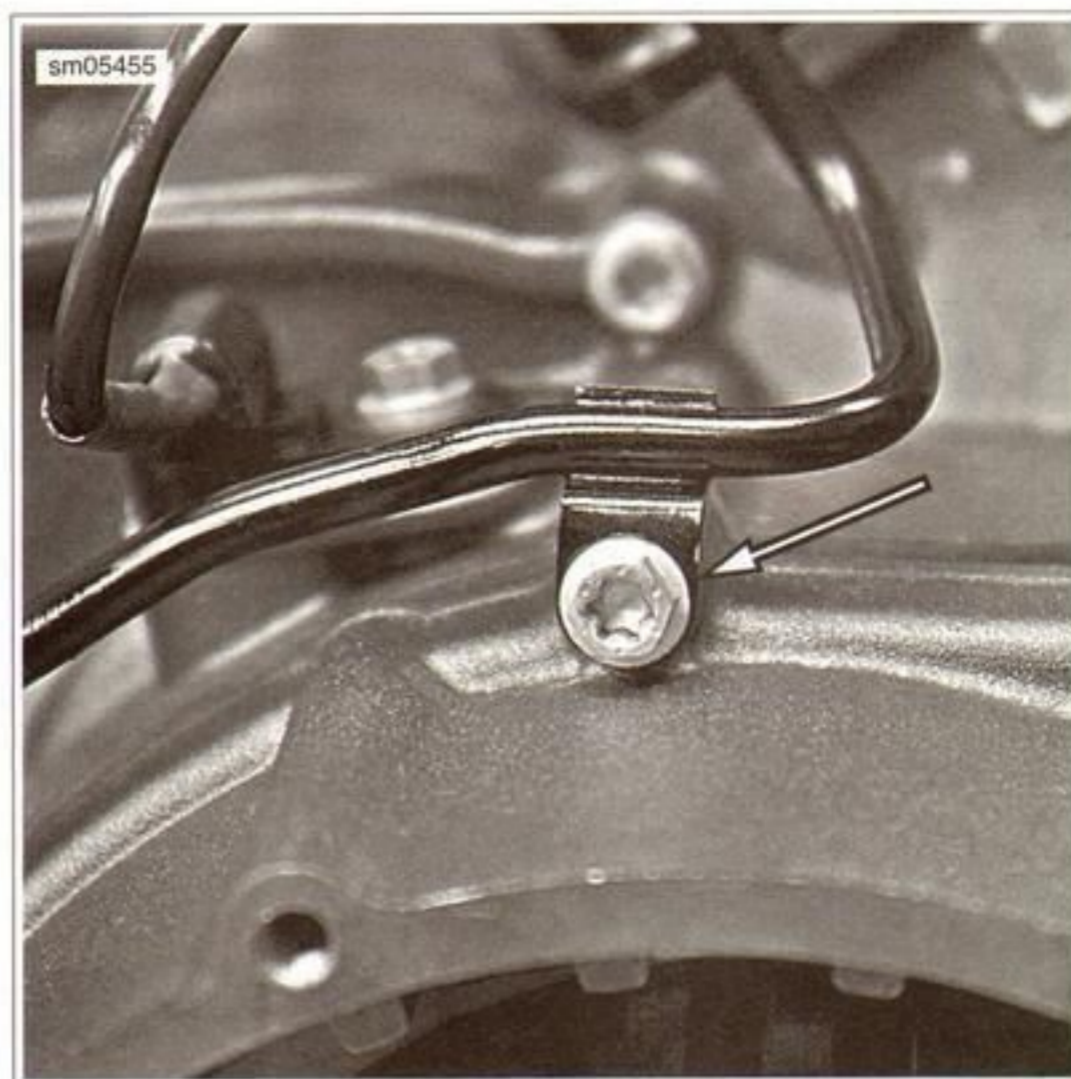

Figure 3-109. Vent Tube Support
2. See Figure 3-109. Remove the clutch cover fastener that captures the vent tube support bracket.